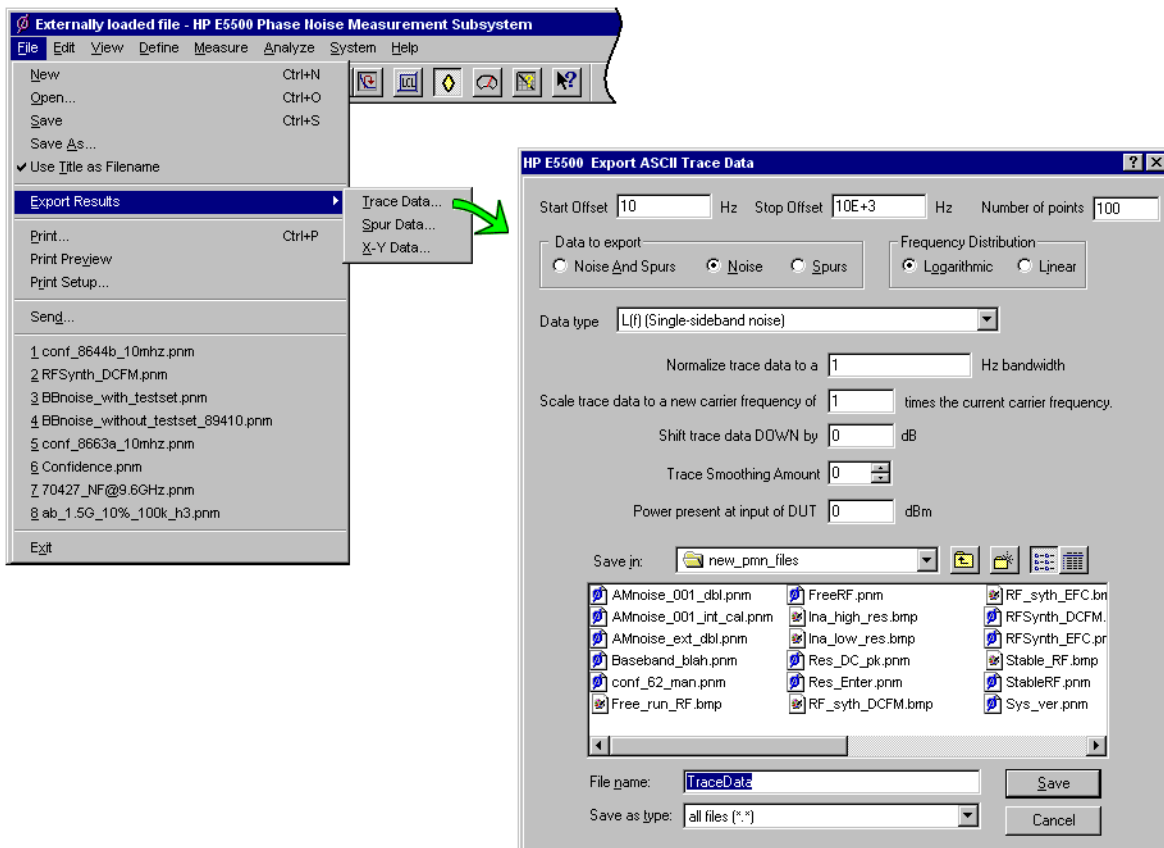

Figure 5-42 Trace Data Results
- 1 On the **File** menu, point to **Export Results**, then click on **Trace Data**. See Figure 5-42.